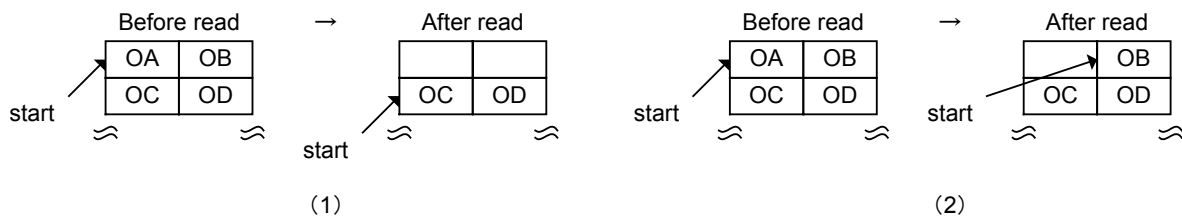

Fig. 6.83 FIFO read processing (normal operations)
The manner of how data is read wordwise when no byte boundaries exist is shown in (1) of Fig. 6.83. Data A,B and then data C,D are read each time the FIFO is accessed. The manner of how data is read byte-wise is shown in (2) of Fig. 6.83. Data A, data B, data C, and data D are read each time the FIFO is accessed. Described above are the normal read operations.